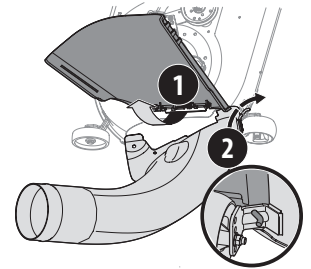

Figure 19
- With the tractor's discharge chute raised up and held open (1), install the boot by placing the boot mounting rod into the chute mounting tab (2), as shown in Figure 19.